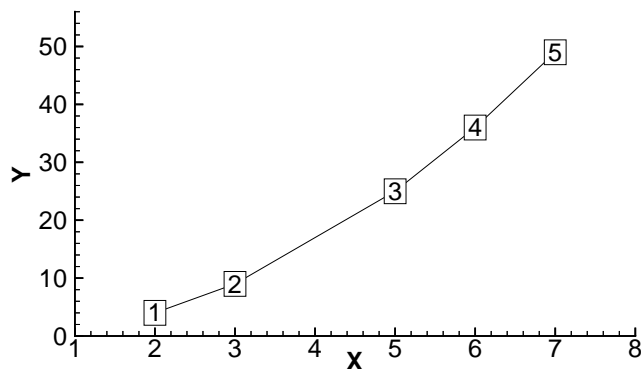

Figure 5-3. An I-ordered data set.
5.2.1.1. Example of I-Ordered Data in POINT Format. A simple example of I-ordered data in **POINT** format is listed below. There are two variables (**X**, **Y**) and five data points. In this example, each row of data corresponds to a data point and each column to a variable. This data set is plotted in Figure 5-3; each data point is labeled with its I-index.